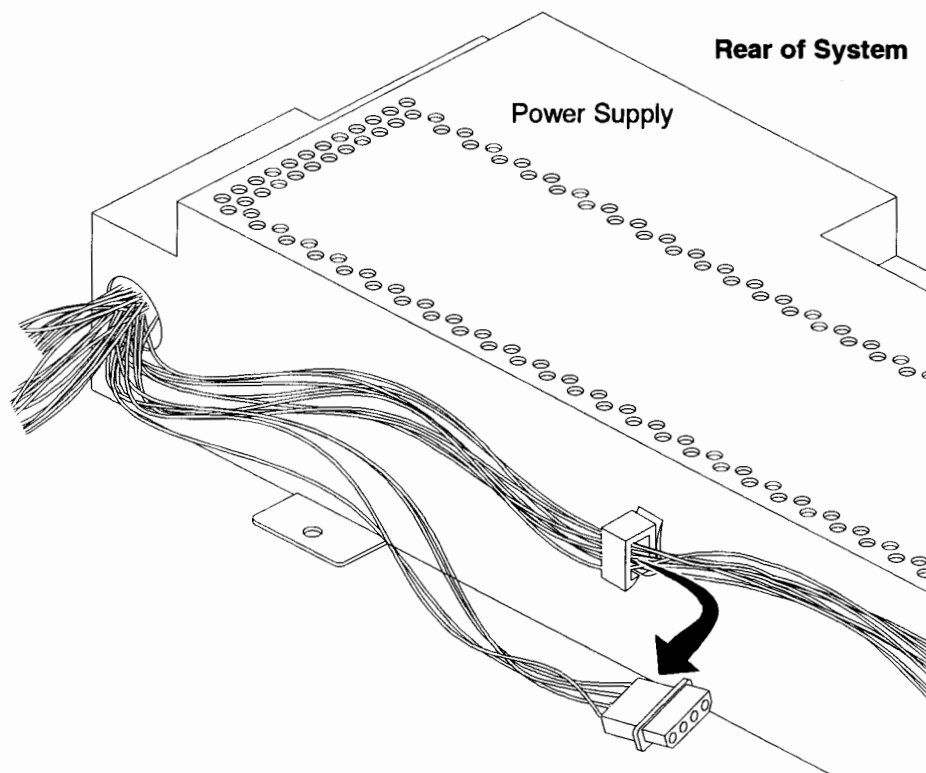

Figure B-20. Power Supply Connector
7. Remove the power supply connector from the cable clip on the power supply, as shown in Figure B-20, and plug it into the rear of the CD-ROM drive.